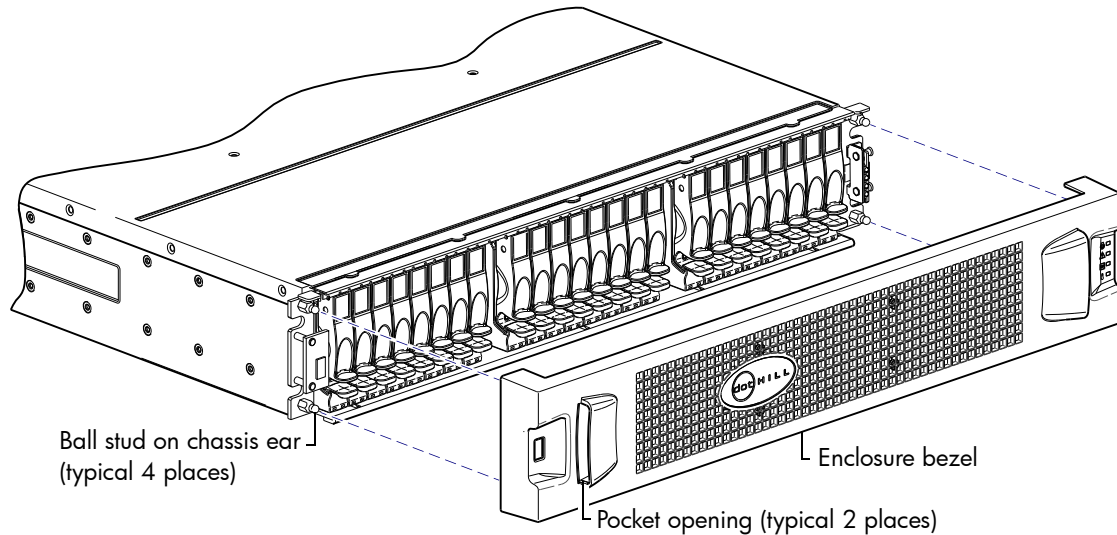

Figure 28 Partial assembly showing bezel alignment with 2U24 chassis
- Bezel alignment for 24-drive enclosure (2U24): Figure 28 on page 68
Orient the enclosure bezel to align its back side with the front face of the enclosure as shown in Figure 28 on page 68 and Figure 29 on page 68. Face the front of the enclosure, and while supporting the base of the bezel, position it such that the mounting sleeves within the integrated ear caps align with the ball studs, and then gently push-fit the bezel onto the ball studs to securely attach the bezel to the front of the enclosure.